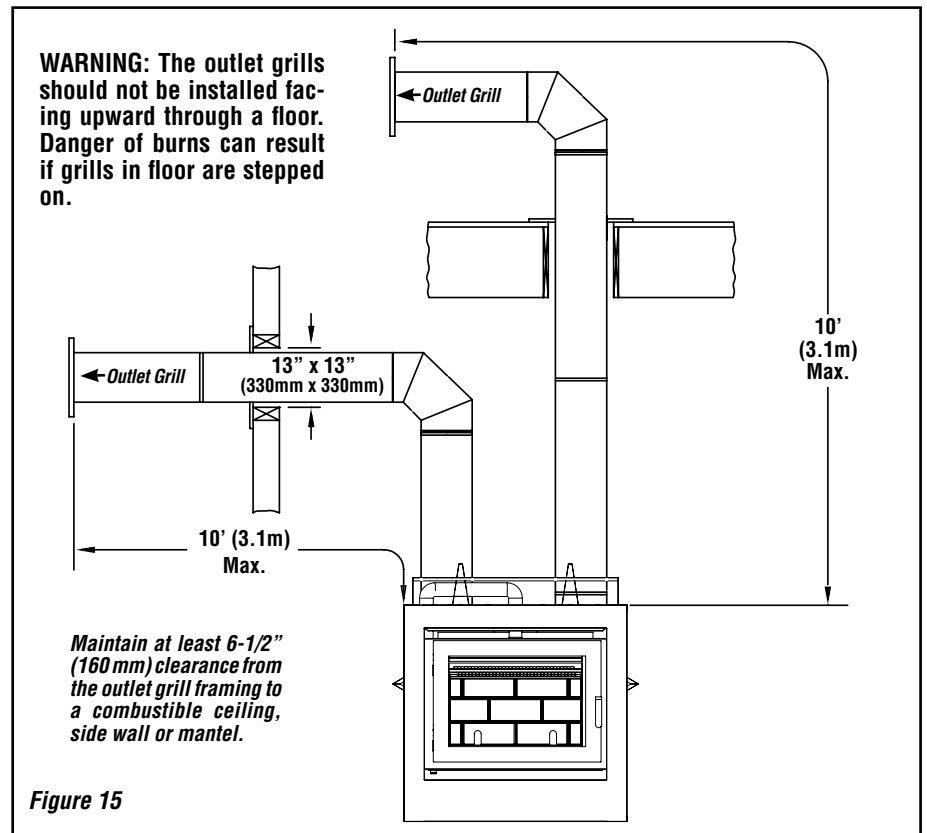

Figure 15
- Maximum length** See **Figure 15**
When installing the double outlet system, the hot air outlets can be installed in the same room as the fireplace, or one or both of the outlets can be installed in adjacent or upper rooms. Installing the ducts at different elevations will tend to exhaust more heat out of the higher outlet (**Figure 15**).